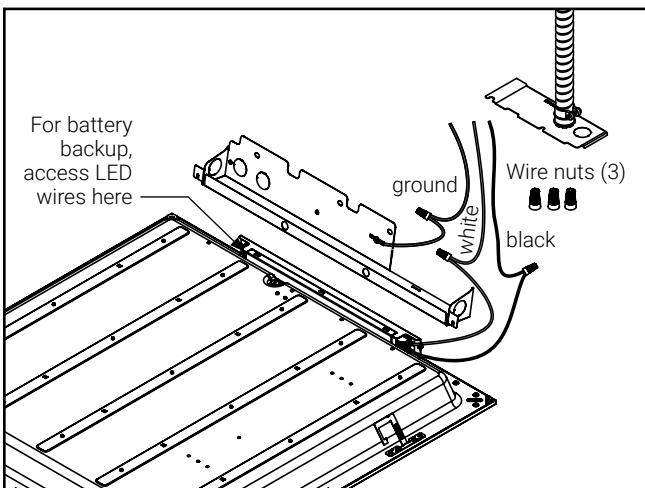

Figure 5.
5. Using the open knockout bring in the supply line. Using the three provided wire nuts to attach the ground wire to the ground supply wire, the black (line) wire to the black supply wire, and the white (neutral) wire to the white supply wire (Fig. 5).
NOTE: This fixture is compatible with battery backup systems including the Surelites EBLED7W and EBLED14W. If using a battery backup system remove driver cover plate to access LED load wires and follow battery backup wiring instructions (Fig. 5). Ensure driver cover plate is reinstalled after wiring.